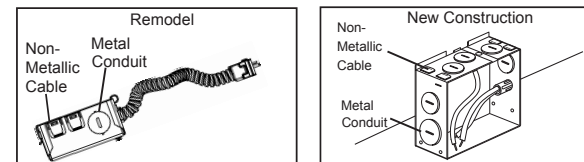

Figure 15
Step 2. Remove wiring compartment cover. Remove the appropriate knock-out(s) to accommodate the type of electrical supply being used (Fig. 15):